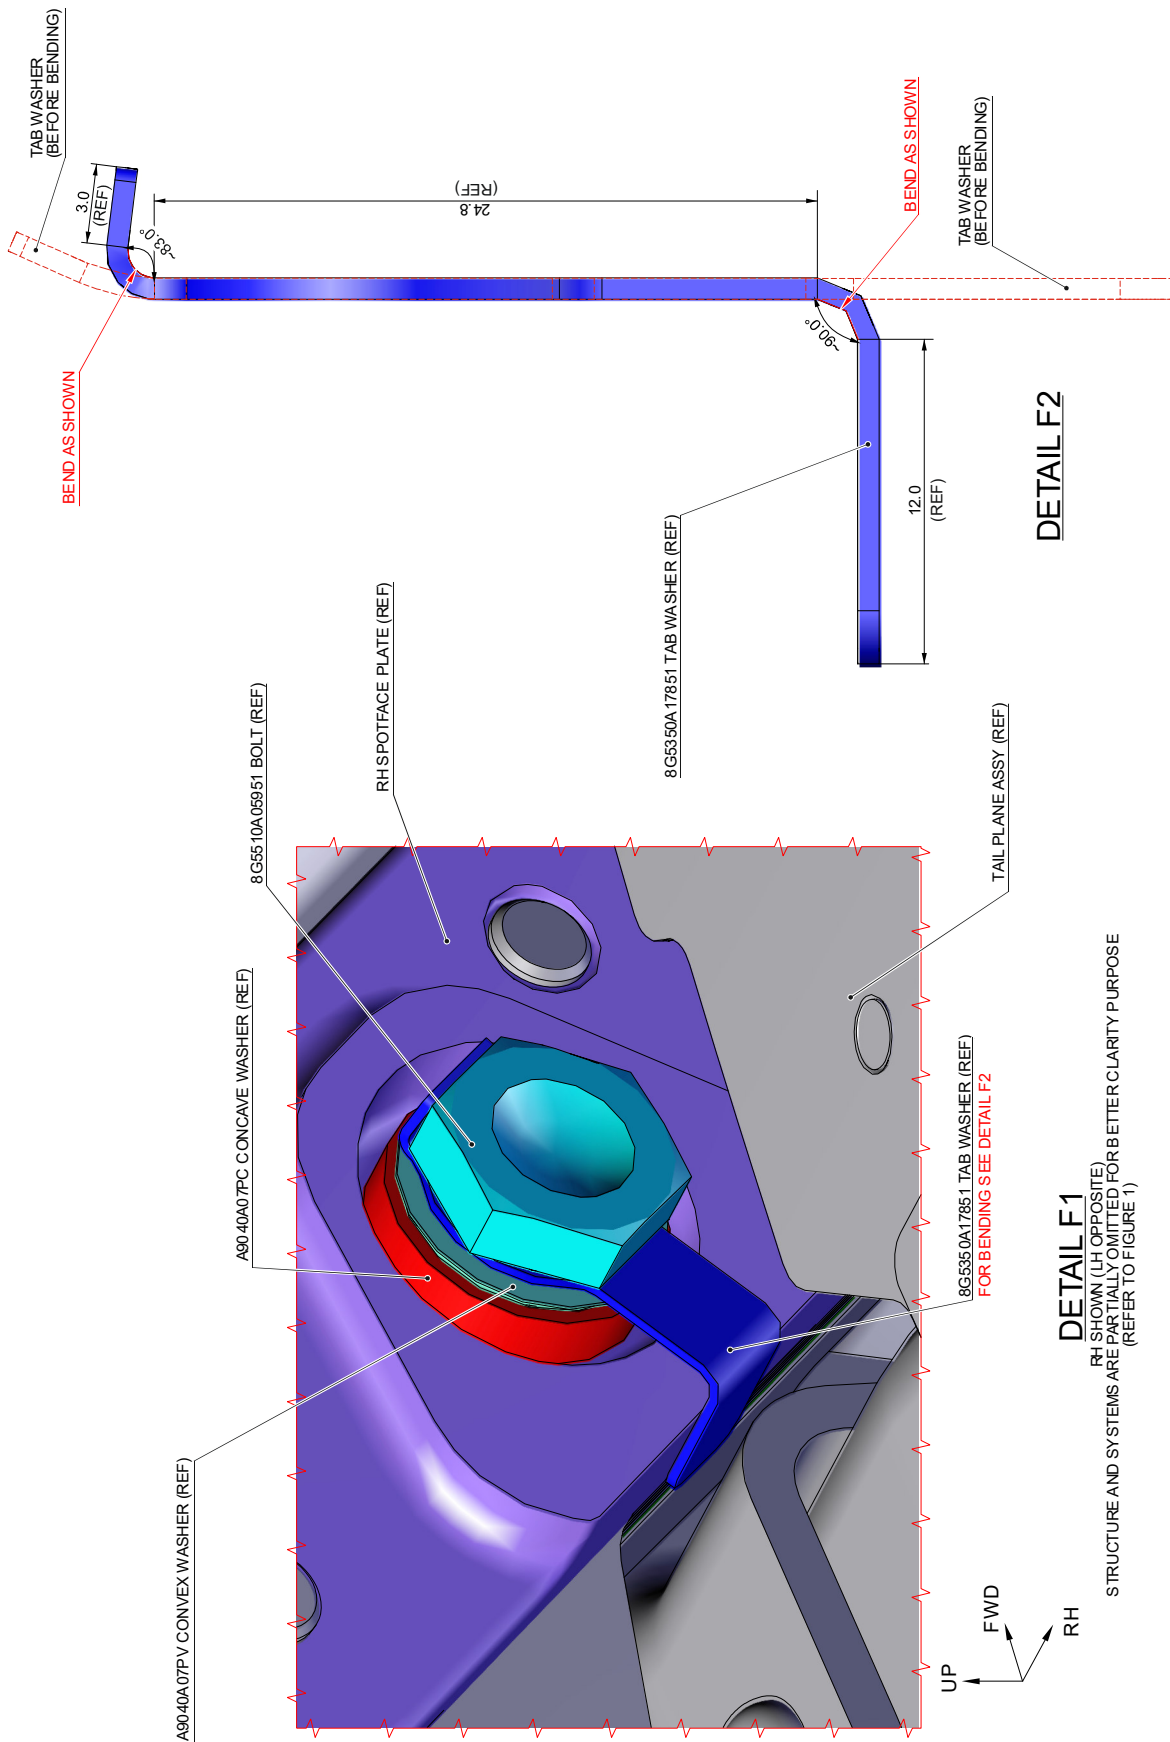

Figure 5
Make sure to bend correctly the tab washer as shown in Figure 5, in order to avoid contact with the tail plane.
- 3.15 With reference to Figure 4 Detail B and Figure 5 Detail F1 and Detail F2, bend the tail of the tab washer 8G5350A17851 through 90 degrees to fit against the aft face of the LH spotface plate and bend the other end of the tail to fit against the bolt P/N 8G5510A05951 as shown.